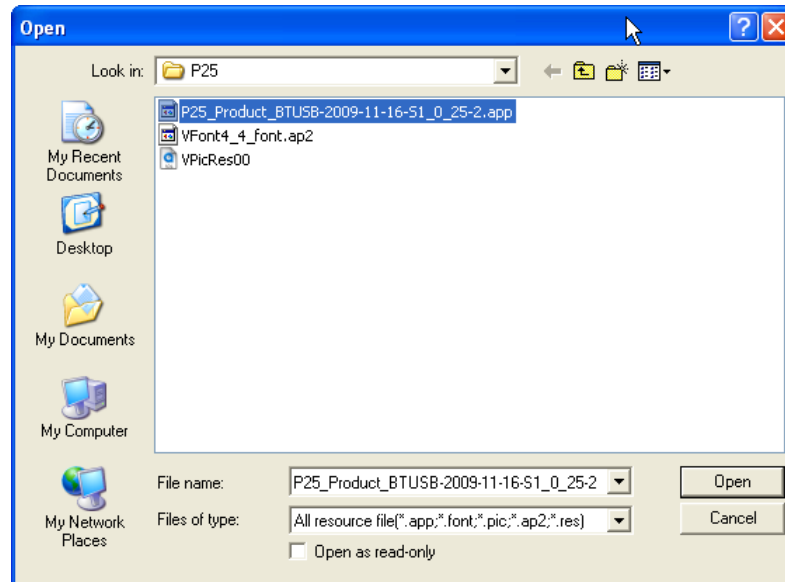

Figure 18
b. Click **Open** as shown in Figure 18, the file will be added to the **File List**.